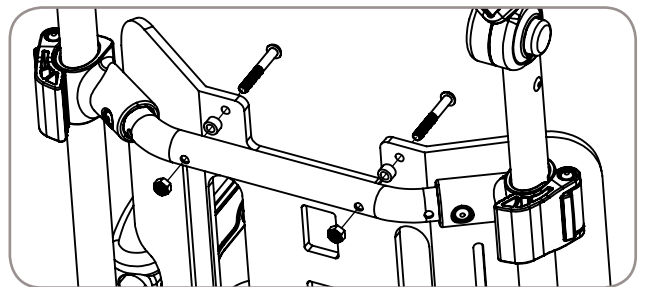

Figure 17
2. Remove bolts that attach back plate to cross-tube with 4mm hex wrench and 10mm wrench. Reference Figure 17.